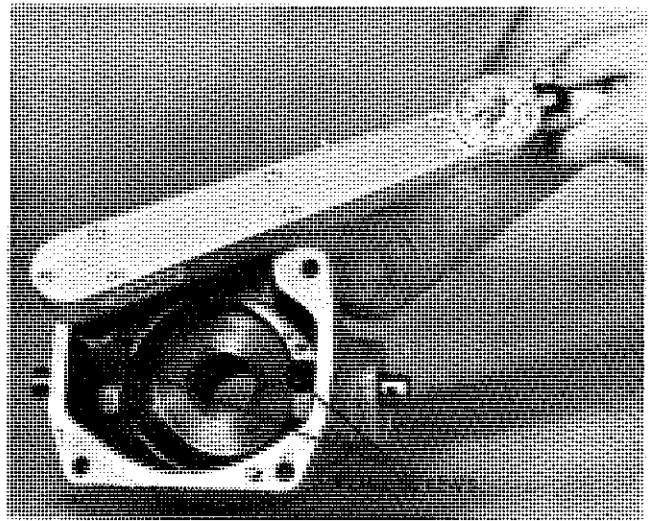

Figure VI-42. Torquing Yoke Screws
- a. Torque yoke screws to 55-60 ft. lbs. (7.6 to 8.3 Kg m) (Figure VI-42).